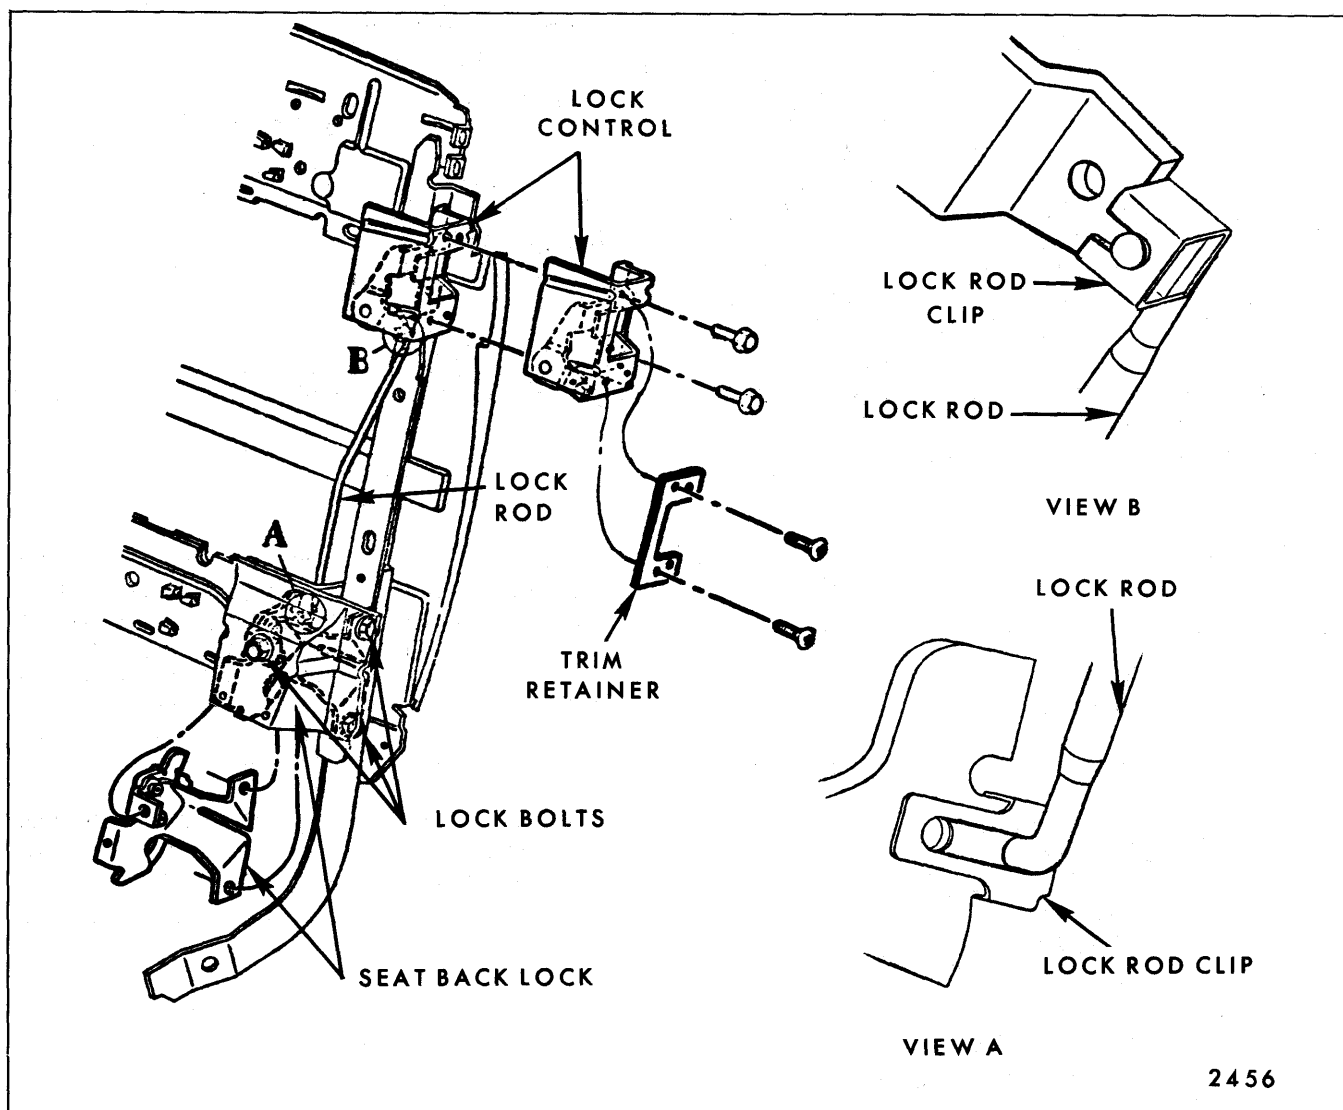

Fig. 15-23—Front Seat Back Lock - "C & E" Body Two-Door Styles, Standard Full Width Seat
3. Remove seat back outer panel. Remove hog rings securing seat back panel or seat back trim panel along bottom and sides of seat. If removing lock, turn seat back trim sufficiently to gain access to lock attaching bolts. If removing lock control or rod, turn up trim to gain access to lock control bolts (See Fig. 15-23).
4. a. To remove seat back lock, disengage lock rod clip at lock (Fig. 15-23) and detach rod from lock. Remove lock attaching bolts (Fig. 15-23) and remove lock from bottom of seat back.
b. To remove seat back lock control, disengage lock rod clip at control (Fig. 15-23) and detach lock rod from control. Remove lock control attaching bolts (Fig. 15-23) and remove lock control from seat back.
c. To remove lock rod, disengage lock rod clip at lock and at control (Fig. 15-23), detach lock rod from control and lock and remove lock rod from seat back.